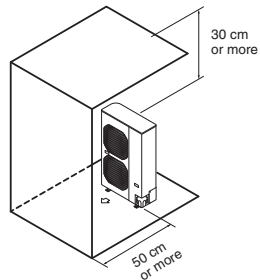

Fig. 2-4
- (3) Obstructions on the front side and above the unit (Left side, right side and rear side are opened). (Fig. 2-4)